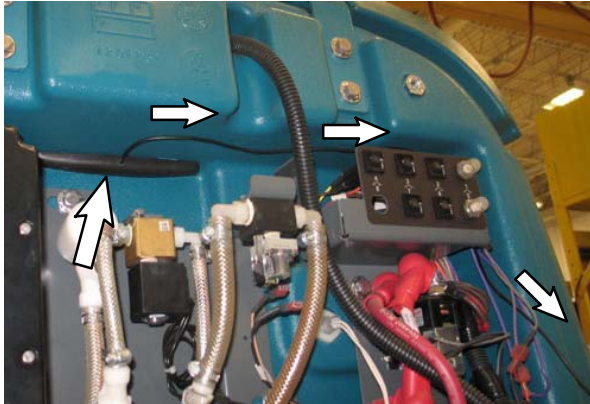

FIG. 5
14. Remove the backing from the adhesive strip on the telemetry antenna (5) and install the telemetry antenna onto the recovery tank. (Fig. 5)